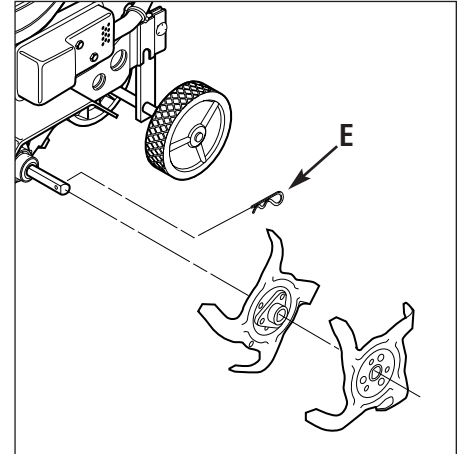

Figure 3: Remove hitch pins and tines from both sides of the tine shaft. Keep left and right-side tines separated and marked for easier reinstallation.
- Remove the hitch pin on each tine shaft (E, Figures 3 and 4).
- It is important for proper tilling performance that the tine sections be later reinstalled in their original patterns. Mark the position of each tine section (Left-Outer, Left-Inner, etc.) before removing them. Refer to Figures 3 and 9 for tine pattern information. See also *Tine Removal and Installation* in Section 5.